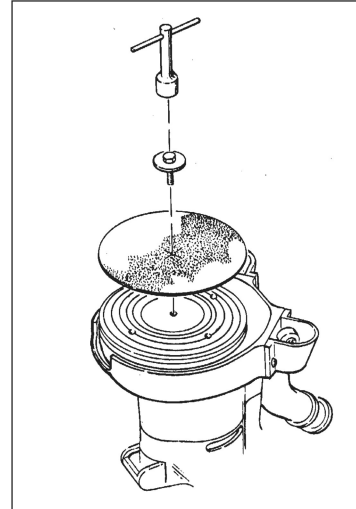

Figure 3
1. Remove screw and abrasive retainer. Center abrasive on pad and secure with abrasive retainer and screw. (Figure 3)